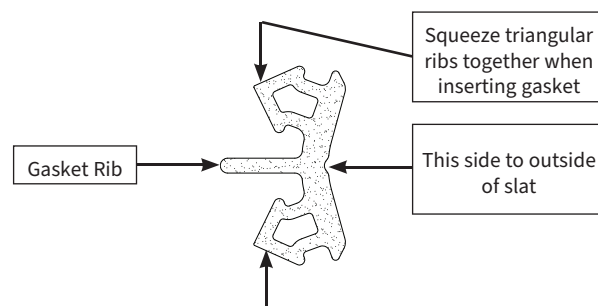

Figure 9: Hinge Gasket Detail
- 2 The concave surface of the gasket faces out and both triangular ribs of the gasket get pressed into the small channels at the top & bottom edge of the slats. There is a rib on the gasket that must go in between the flat surfaces of the slats on the top & bottom of the gasket. (Figure 9)